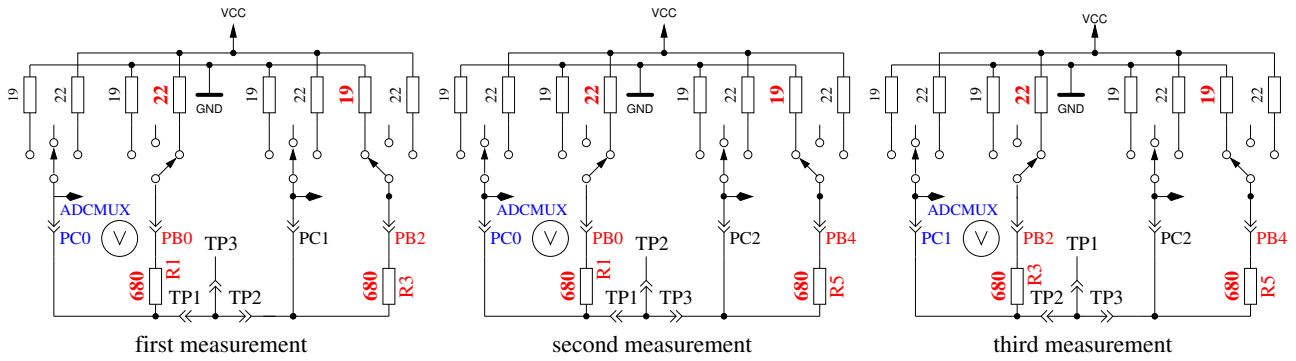

Figure 5.54. Comparison of 680Ω resistors
2. **Comparing of the 680Ω resistors.** In row 1 the cryptic text "+RL- 12 13 23" is shown. Meaning of this is as follows: The RL is the short form of Resistor Low meaning the 680Ω resistors. The 12 stand for: resistor at pin 1 is connected to VCC (+) and resistor at pin 2 is connected to GND (-). The result of this measurement is displayed in row 2 at the first place as difference to the theoretical value. In row 1 follows now a "13" which means, that the first connection of measurement 1 is still connected with 680Ω to VCC but that the resistor of pin 3 is connected to GND. The result is displayed in the middle place of row 2 as difference to the theoretical value. The last measurement of this test "23." means that now the resistor at pin 2 is connected to VCC (+) and the resistor of pin 3 is connected to GND. The result of measurement is displayed at the last place of LCR row 2 as difference to the theoretical value. Please remember, that the resolution of the ADC is about 4.88mV! The measurement situation is also shown in figure 5.54. The theoretical value with respect to the internal resistance of the pins should be: